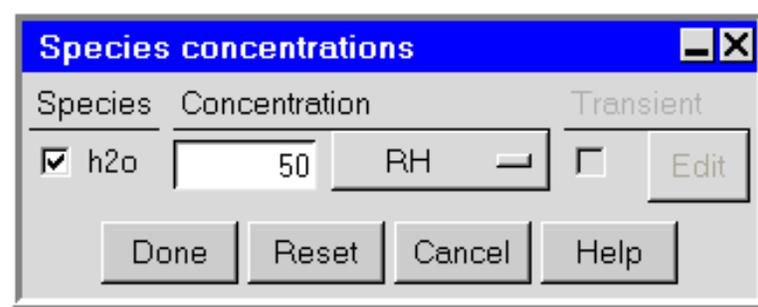

Figure 4.17: Species Concentrations Panel
*Airpak will open the Species concentrations panel (Figure 4.17).*